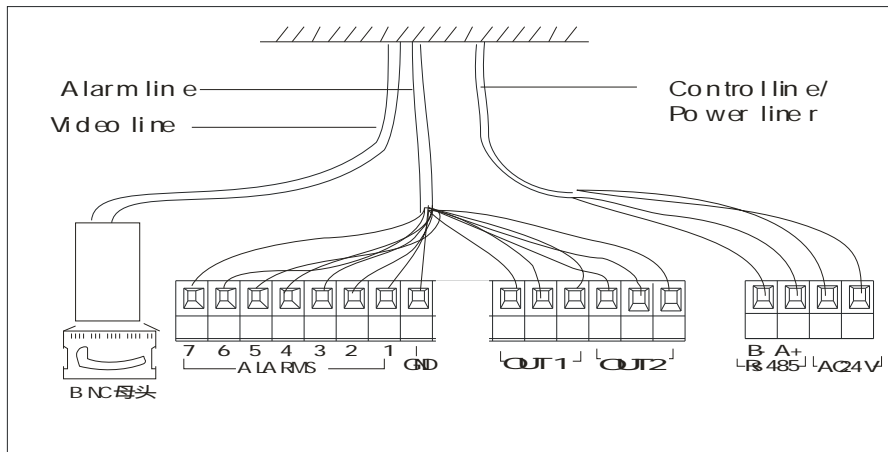

Figure 9
10. Connect alarm input and alarm output according to instructions of socket D3.(Figure 9)
- 4 channels Normal Open (NC) alarm input, close contact to trigger alarm.